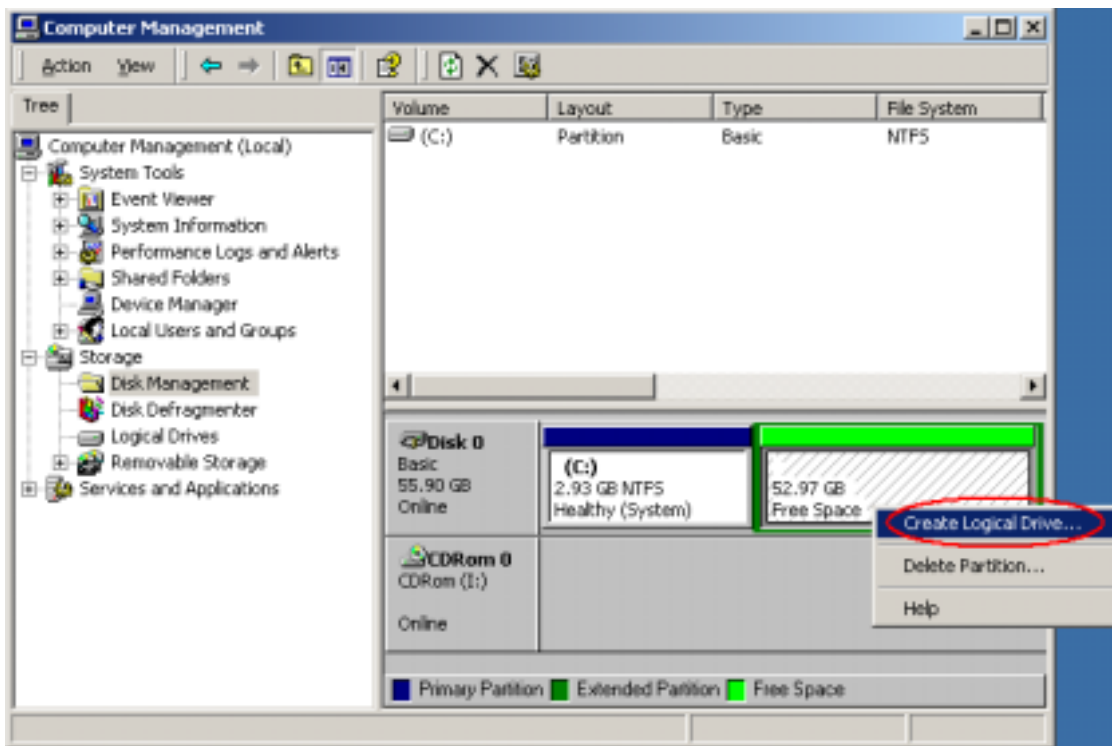
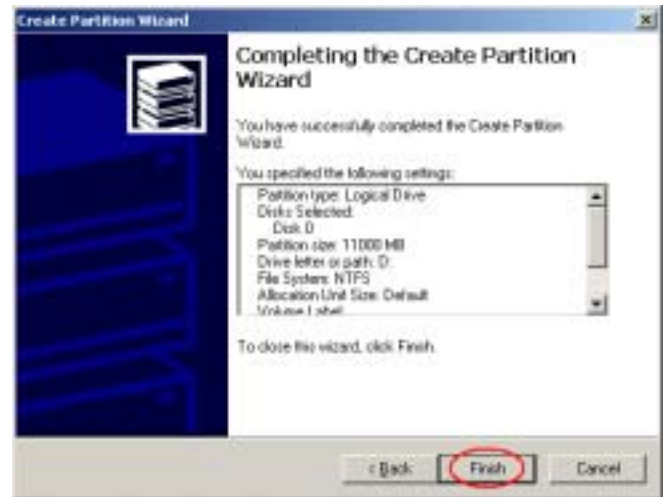

Figure 2-4-7
Figure 2-4-13
-> You must Repeat **Figure 2.4.7** ~ **Figure 2.4.13** progress. -> Confirm the “Logical Drive”.